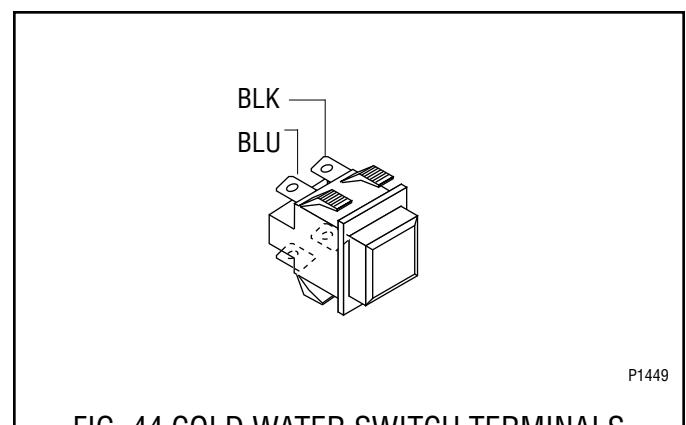

FIG. 44 COLD WATER SWITCH TERMINALS
8. Refer to Fig. 44 when reinstalling wires.